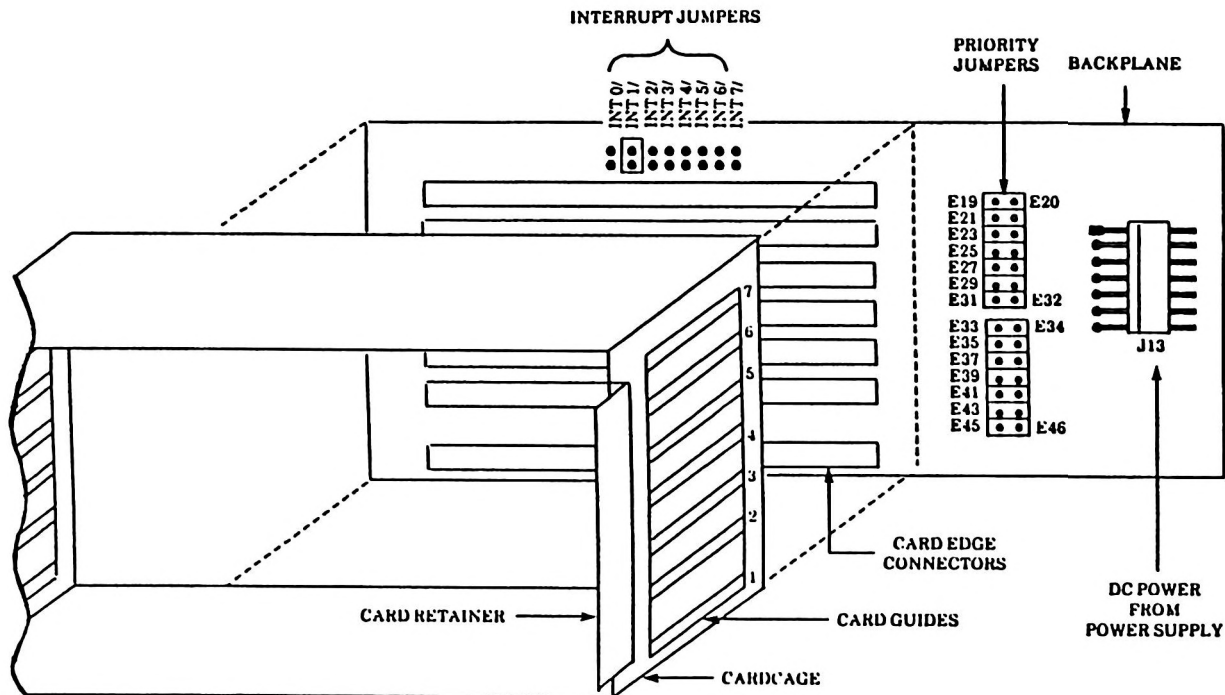

Figure 5-5. Jumper Locations on the Backplane
3. Find the interrupt jumpers by looking into the cardcage. These jumpers appear just above the top card edge connector and are labeled INT0/ through INT7/. If you have a factory-standard system, there is a jumper installed across the posts labeled INT1/ as shown in Figure 5-5.
1. Find the priority jumpers to the right of the cardcage on the backplane. The location of these jumpers is shown in Figure 5-5. Table 5-1 describes how the factory sets the jumpers.